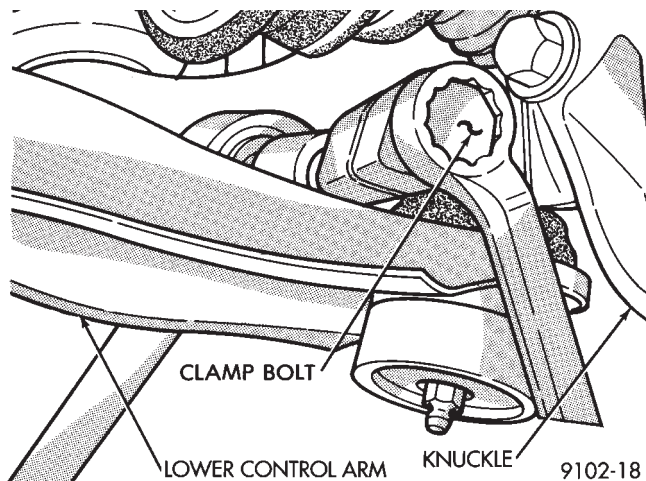

Fig. 14 Tighten Steering Knuckle Clamp Bolt
(6) Install the original (or equivalent) steering knuckle to ball joint stud, clamp bolt and nut (Fig. 14). Torque the clamp bolt to 145 N•m (105 ft. lbs.).